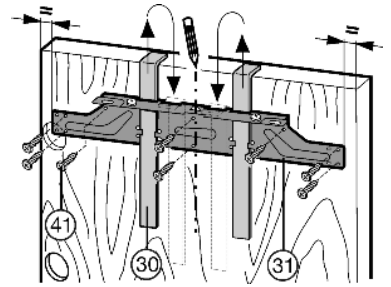

Fig. 21
- ▶ Unscrew the crosspiece *Fig. 21 (31)* by undoing the locknuts *Fig. 21 (32)*.
- ▶ Attach the crosspiece *Fig. 21 (31)* together with the assembly aids *Fig. 21 (30)* to the inside of the unit door.
- ▶ Concentrically align the crosspiece *Fig. 21 (31)*: Mark a short centre line on the unit door and put the tip of the arrow on the crosspiece over it.
- ▶ Tightly screw the crosspiece *Fig. 21 (31)* into place using at least 6 screws *Fig. 21 (41)*.
- ▶ Tightly screw the crosspiece *Fig. 21 (31)* into place using 4 screws *Fig. 21 (41)* at the edge.
- ▶ Raise and remove the assembly aids *Fig. 21 (30)*, turn them and slide them into the adjacent openings.